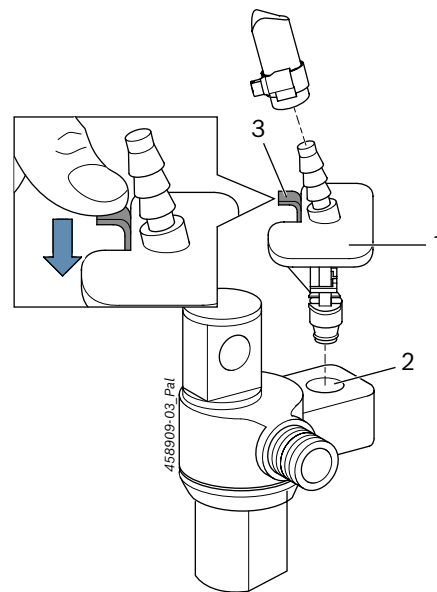

Fig. 3: Return adapter 1 683 356 137
The return adapter 1 683 356 137 (Fig. 3, item 1) connects the return line of the Delphi CRI (Fig. 3, item 2) to the return quantity test connection on the EPS 200 / EPS 205 using the hose assemblies 1 680 712 249 and 1 680 712 289.
🔧 Secure the return adapter by pressing down the tab (Fig. 3, item 3). To remove it, pull the tab up and remove the return adapter from the return connection.